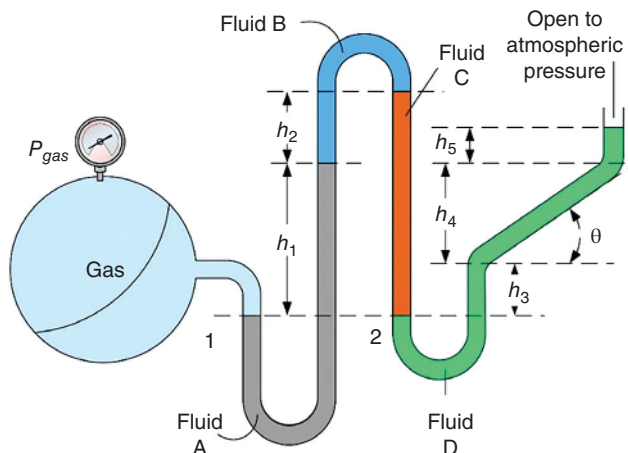

Figure 1.27 An advanced manometer with four different types of fluid, where each has a different density.
Although the manometer shown in Figure 1.26 is a simple/basic one, there are manometers in a more complicated manner with multiple tubes, as illustrated in Figure 1.27.
Based on the manometer system given in Figure 1.27, one may need to find the pressure after going through the solution methodology to write the pressure balance equation:
Step 1: Start with the point assigned in the system (usually preferable to start with the gas container pressure), which is point 1 in Figure 1.27. Note that the pressure variation with depth is negligible in the case where the fluid is the gaseous state, which means the pressure in the gas container is equivalent to the pressure at point 1.